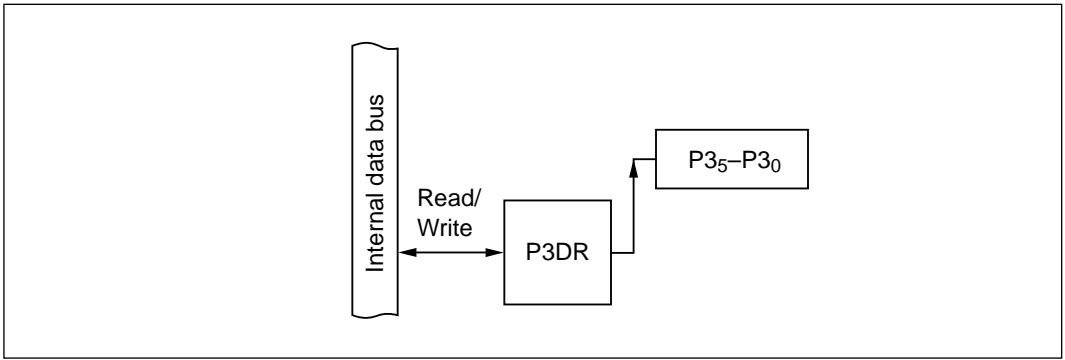

Figure 10-18 Output Port (Modes 1 to 7)
(2) **Output Port (Modes 1 to 7):** Figure 10-18 shows a block diagram illustrating the general-purpose output function. Table 10-13 indicates register read/write data. The value written in the port 3 data register (P3DR) is output at the pin. When read, P3DR returns the value written in P3DR.